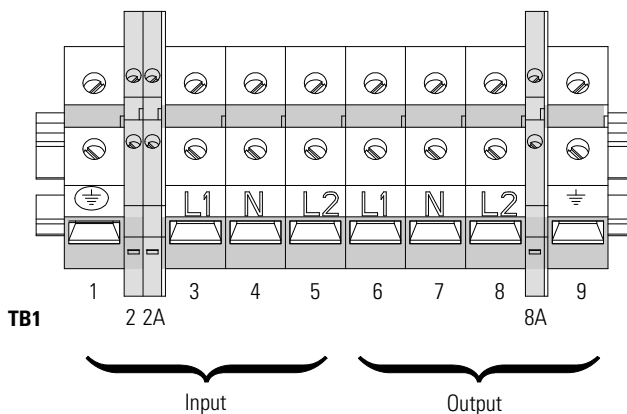

Figure 11. UPS Terminal Block
- Wire the output of the input isolation transformer terminal block to the UPS input terminal block (see Table 3 and Figure 11).